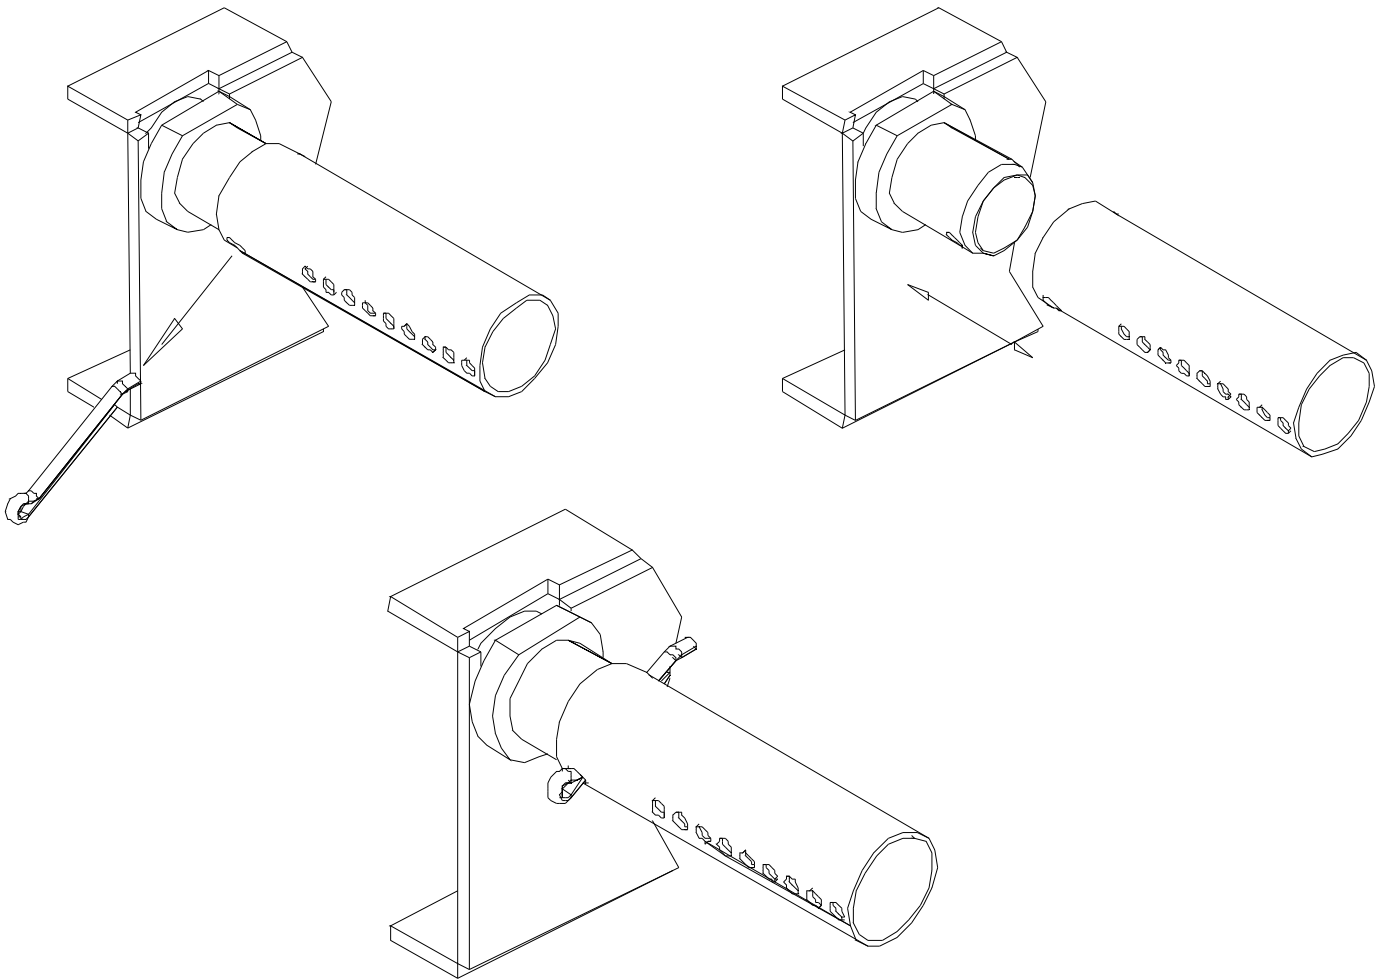

Figure 4.3 – Secondary Air Tube replacement
- Install the middle (F) and rear (G) secondary air tubes ensuring air holes face forward. Install the cotter pins as in fig 4.3.
(see Figure 4.3)